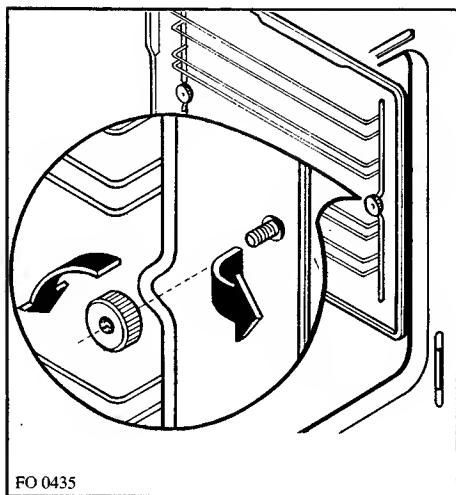

Fig. 7
1. Unscrew the ring nuts, securing the side runners, and remove the runners (Fig. 7).